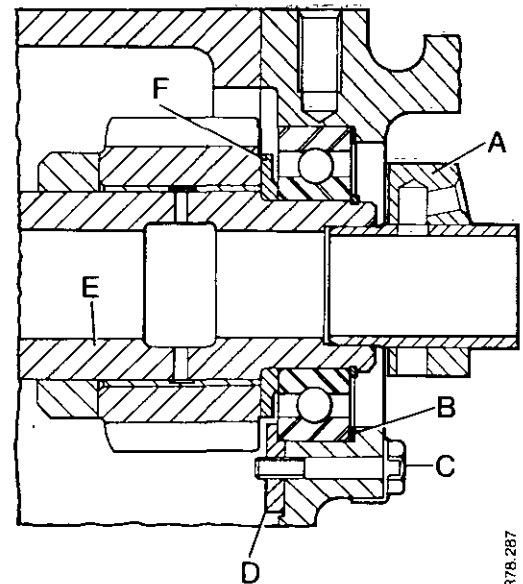

FIGURE 89. TOPSHAFT REAR END
16. Remove the lubrication muff A, Figure 89, from the rear of the topshaft.